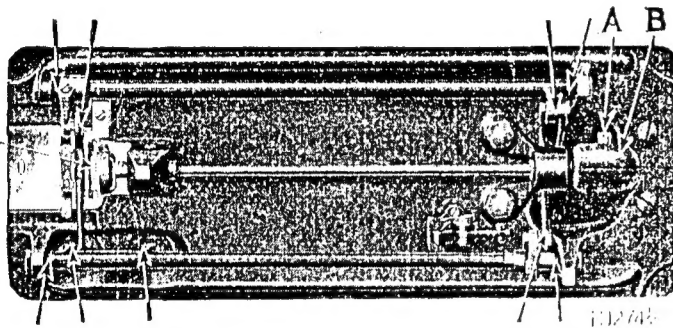

FIG. 17. BASE OF MACHINE, SHOWING OILING POINTS
Turn the machine back on its hinges and apply oil at the places as shown by arrows in Fig. 17.
Occasionally remove the knurled thumb screw (A, Fig. 17) and fill the gear case (B, Fig. 17) with the Singer High Speed Lubricant, a grease which is especially prepared for this purpose, then replace the thumb screw (A).